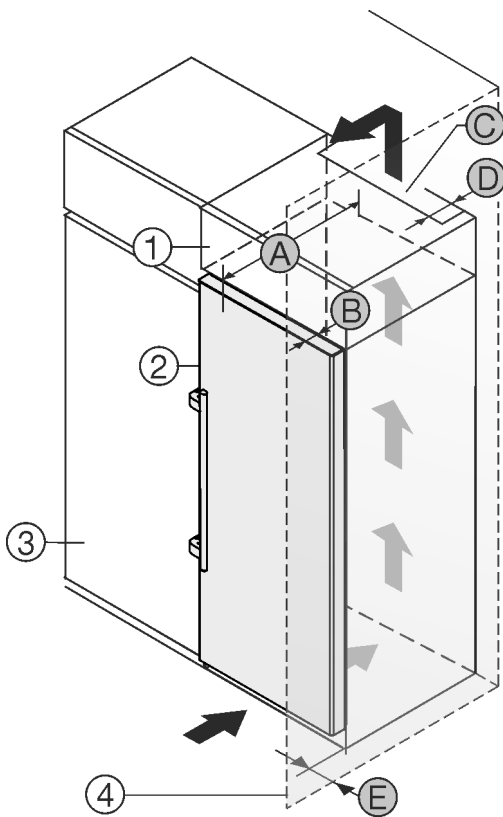

Fig. 2
- (1) Top cabinet*
- (2) Appliance*
- (3) Kitchen cabinet*
- (4) Wall*
- (A) Appliance depth*
- (B) Door depth*
- (C) Ventilation cross-section*
- (D) Distance to the rear of the appliance*
- (E) Distance to the side of the appliance*
You can place the appliance directly beside the kitchen cabinet *Fig. 2 (3)*.*
There must be a ventilation shaft at the depth *Fig. 2 (D)* of the back of the top cupboard over the entire width of the top cupboard.*
The cross section of the ventilation gap *Fig. 2 (C)* must be maintained below the ceiling.*
If the appliance is set up with the hinges next to a wall *Fig. 2 (4)*, the distance between the appliance and the wall must be at least 57 mm. This is how far the handle protrudes when the door is open.*
In order to be able to fully open the door, the appliance must protrude by the depth of the door *Fig. 2 (B)* from the front of the kitchen cabinet. Regardless of the depth of the kitchen cabinets *Fig. 2 (3)* and use of wall spaces, the appliance can protrude further.*